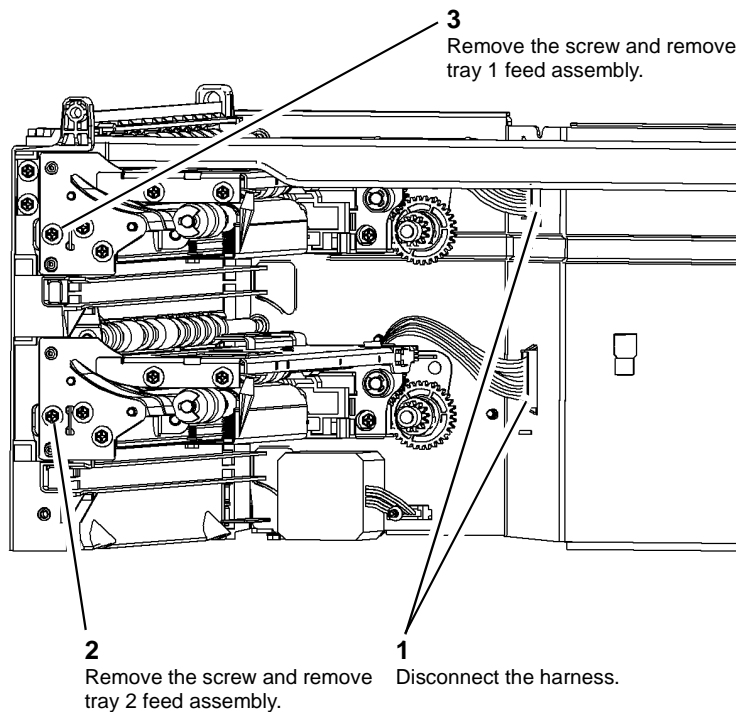

Figure 1 Remove tray 1 or tray 2 paper feeder
2. Remove tray 1 or tray 2 feed assembly. Figure 1.